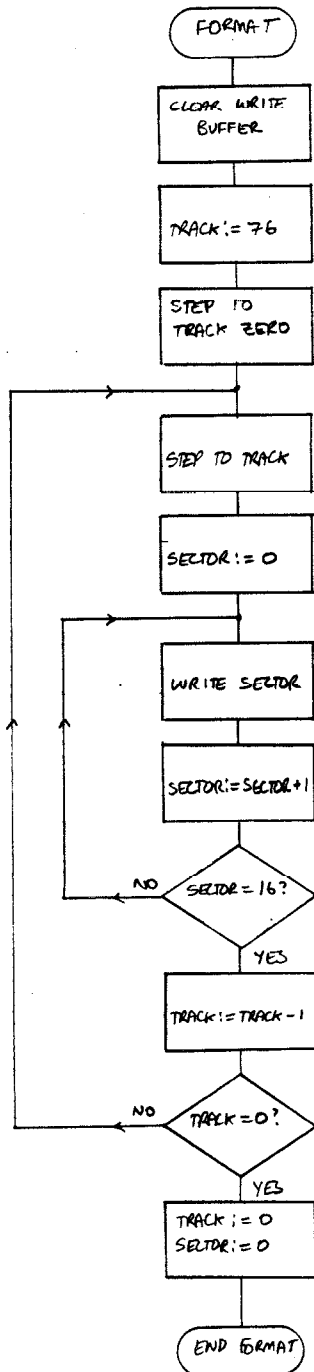

Figure 3.9 Flowchart for FORMAT
3.6./ FORMAT routine (figure 3.9.)